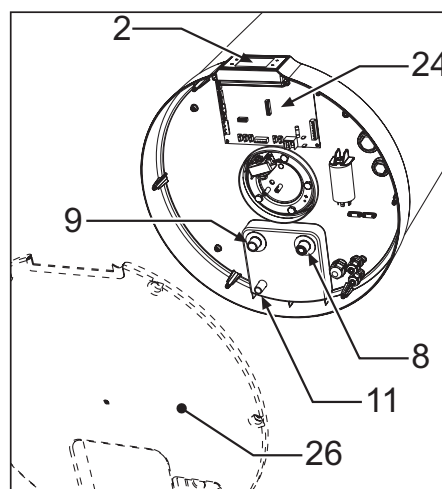
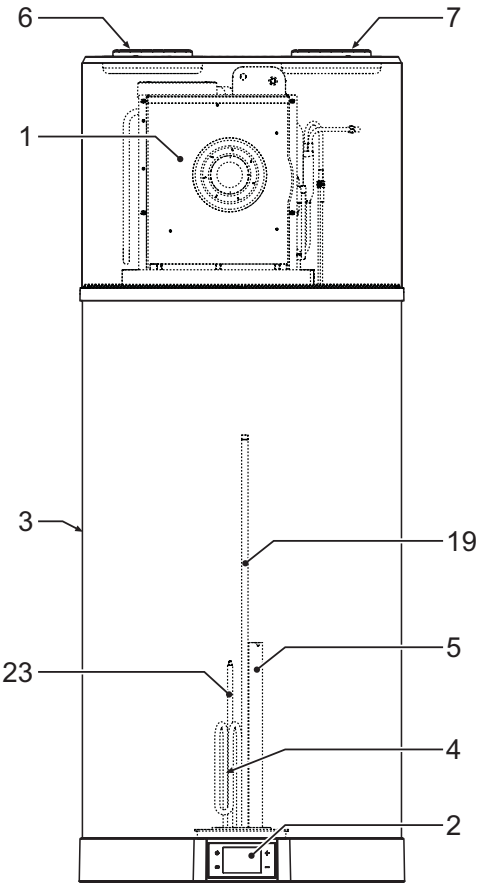
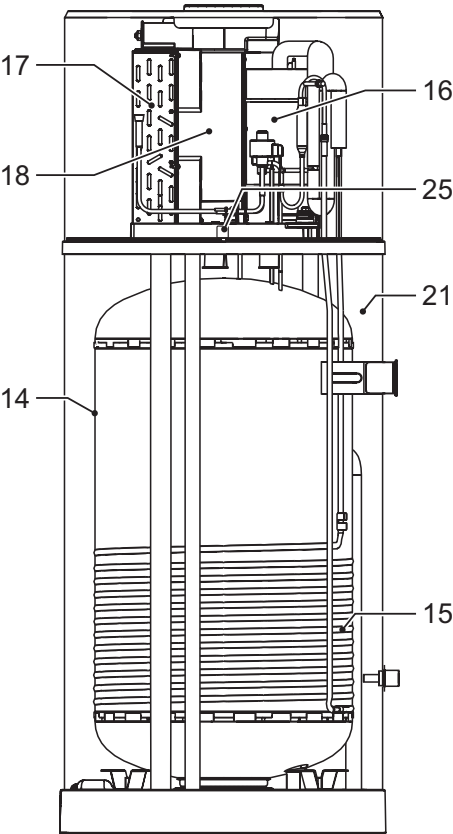

fig. 20
fig. 21
fig. 22
| REF. | DESCRIPCIÓN (fig. 20 - fig. 21 - fig. 22)                                                                              |
| F (ref. 8 - fig. 20)  | 1/2"G  | 163   | 163    | mm |
| G (ref. 9 - fig. 20)  | 1/2"G  | 163   | 163    | mm |
| H (ref. 11 - fig. 20) | 16 mm* | 68    | 68     | mm |